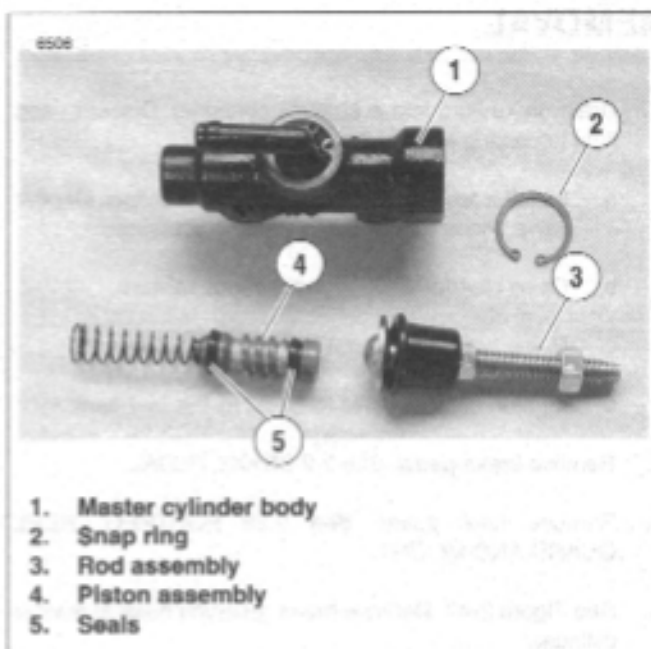

Figure 2-46. Master Cylinder Internal
1. See Figure 2-46. Slide rubber boot on rod assembly (3) away from master cylinder body (1).
2. Depress rod assembly (3) and remove internal snap ring (2). Discard snap ring.
3. Remove piston assembly (4) from master cylinder body (1).
4. Loosen adjuster locknut on the rod assembly (3).
5. Remove the clevis from the rod assembly (3).
2. See Figure 2-46. Assemble new piston components placing small end of spring behind primary seal of piston (4).
3. Lubricate master cylinder body (1) and piston seals (5) with **D.O.T. 4 BRAKE FLUID**.
4. Place round side of rod assembly (3) over piston. Depress piston (4) into master cylinder body (1) and secure with a new snap ring (2).